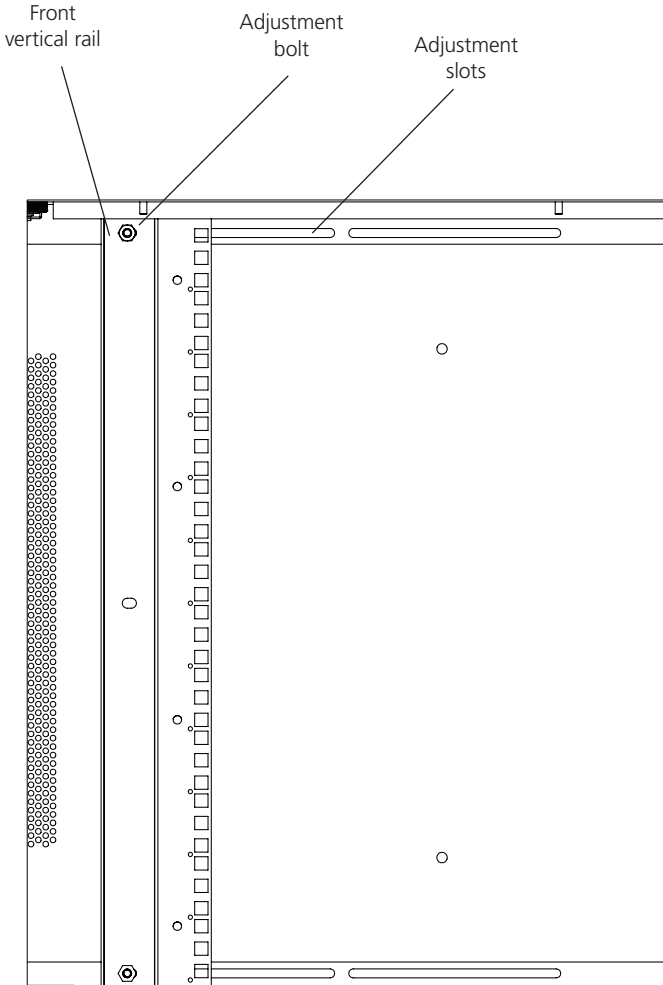

Figure 5-2. Loosen the bolts on the rails.
1. Use a 10-mm socket (not included) to loosen—but not remove—the bolts in the vertical mounting rails. See Figure 5-2.